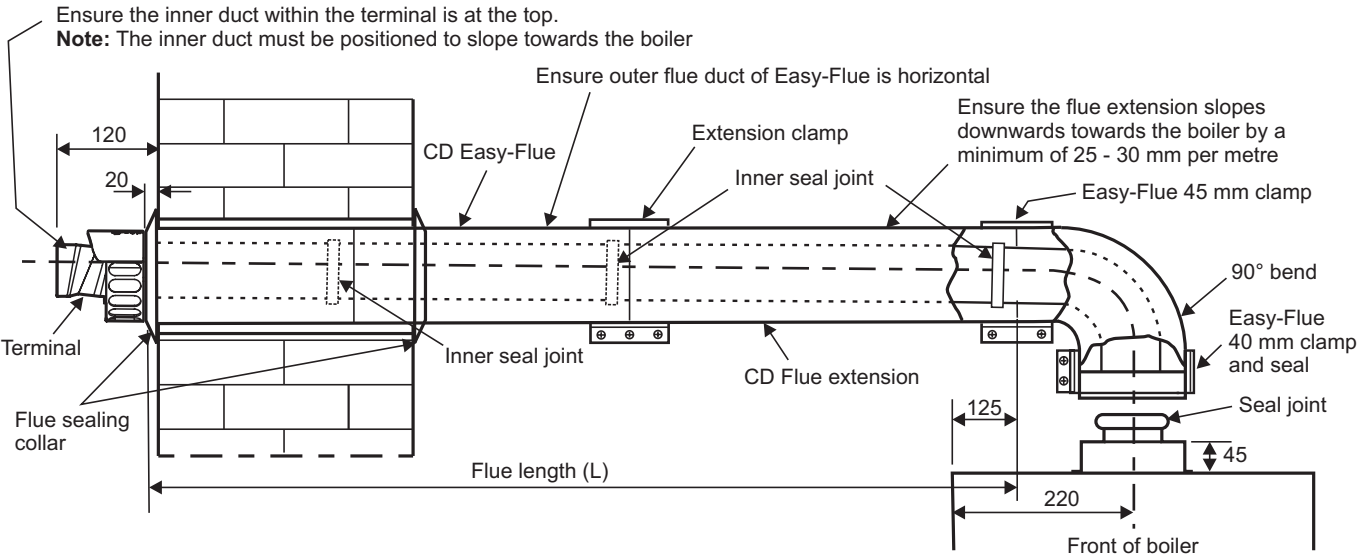

Fig. 4.11 - Side flue
4.8 EXTENDING THE FLUE - Fig. 4.11
**Note:** Check the flue terminal protrudes 120 mm out of the wall and that the inner duct of the terminal is positioned correctly, i.e. the inner duct within the terminal is at the top. See Fig. 4.11.